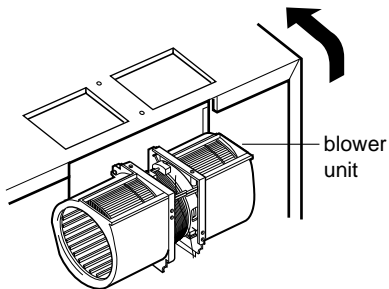

Figure 16
3. Rotate blower unit 90° turn so that the exhaust ports face the front of the unit. See Figure 16.
NOTE: If you want to install this microwave oven properly, you should be careful to tighten the blower screws. For a room-vented installation, use the screw holes labeled "C" in figure 16 below.